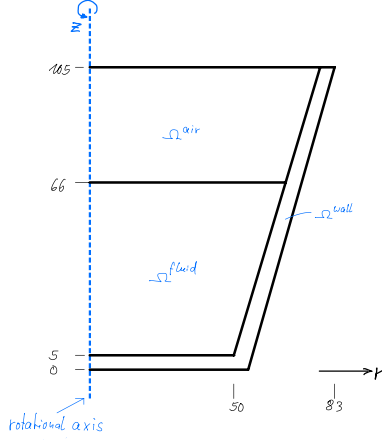

Figure 2: Ω^{rot} : rotationally symmetric
9. Solve (3) for subtask (i).
We consider a 2D cut of the mug as in Fig. 2 without rotation and without symmetry axis. The PDE is similar to (1) in x - and z -coordinates in Ω^{2d} .